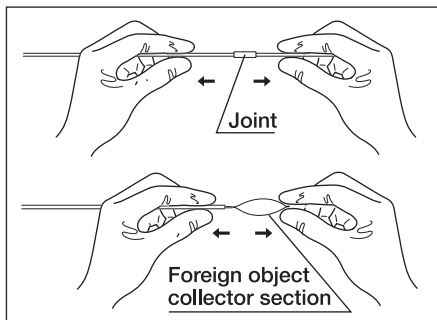

Figure 3.2
2. Pull the distal end of the industrial retrieval tool with a light force and confirm that it does not slip out easily (see Figure 3.2).